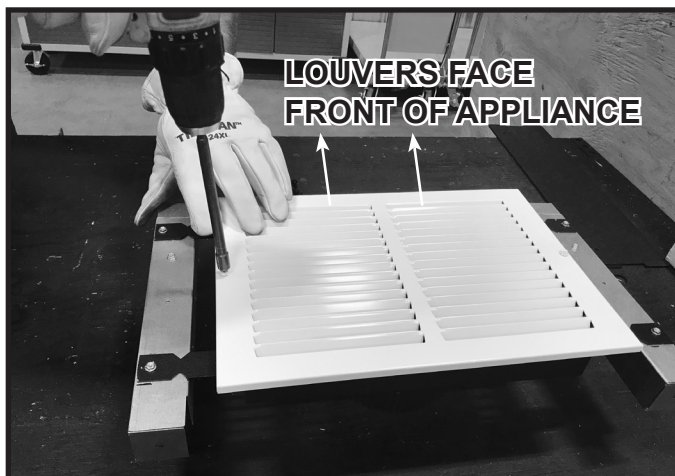

Figure 8.14 Louvers Face Front of Appliance
- Mount the 12 inch x 8 inch register cover to the discharge assemblies register cover tabs using the screws provided with the cover. See Figure 8.14.